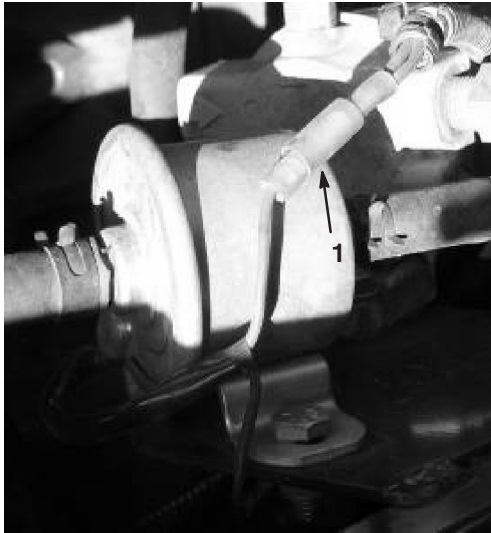

Figure 6
- D. Cut the bullet connector off of the machine wire harness (Fig. 6). Strip 1/4 inch off the end and crimp on new splice terminal connector installed in step C. Heat shrink the newly crimped side of the splice terminal.